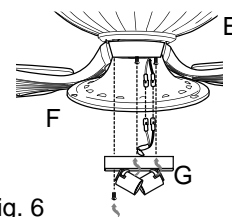

Fig. 6
6. Partially loosen two screws on the underside of the shade fitter (F) and remove the other screw. Connect **WHITE** wire from light kit fitter (G) to **WHITE** wire from motor housing (E). Connect **BLACK** wire from light kit fitter (G) to **BLACK** wire from motor housing (E). Make sure that molex connections snap together securely.
Carefully arrange wiring within light kit fitter (G). Align slotted holes in light kit fitter (G) with loosened screws in shade fitter (F). Twist light kit fitter (G) to lock. Re-insert screw that was removed and tighten all screws securely. [Fig. 6]